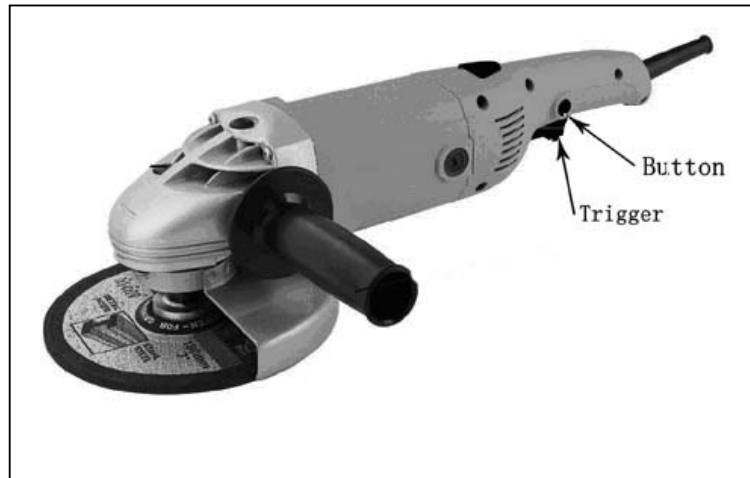

Figure 5
- 1) When starting hold the tool firmly with both hands i.e. One hand on the motor housing and the other on the side auxiliary handle (1).
- 2) Start the tool by pressing trigger inwards, then the tool is energized and starts to operate. (See figure 5)
- 2) Start the tool by pressing trigger inwards, then press the lock button at side to lock the tool at “on” condition. In this condition, the tool will operate continuously without pressing the trigger all the time (See figure 5)